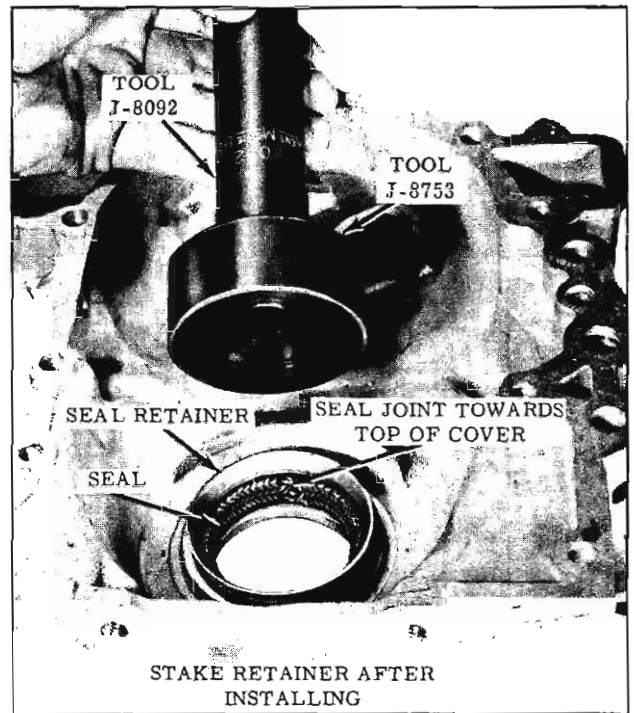

Fig. 3-119 Installing Front Seal
6. Place seal and retainer in cover with seal joint towards top of cover, and install with Tool J-8753 until seated. Stake retainer securely. (Fig. 3-119)